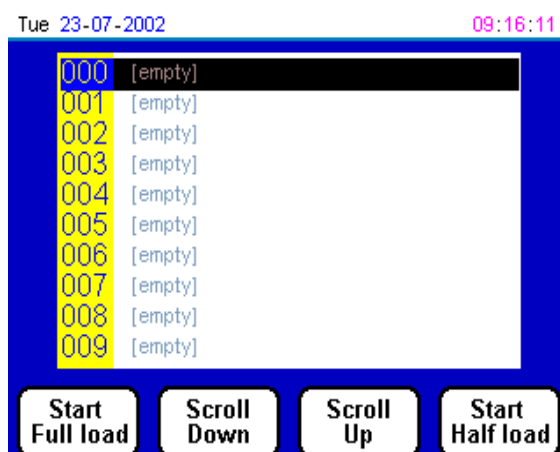

Fig 2
4. Press (4) and program list appears (see fig 2). (If oven has not been programmed go to section 11 - programming).
9. This will now take you back to program screen (Fig 2).